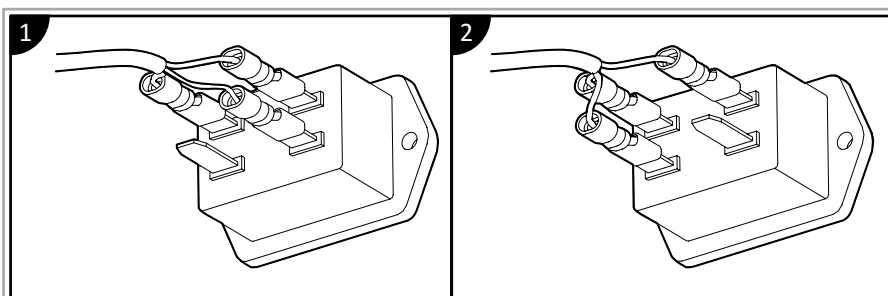

Figure 16 Resetting the hours counter
- 2 Unplug the wire from the enabling signal tab and plug it onto the reset tab, as shown in image 2 of figure 16.
- 6 Unplug the wire from the reset tab and replace it onto the enabling signal tab, as shown in image 1 of figure 16.